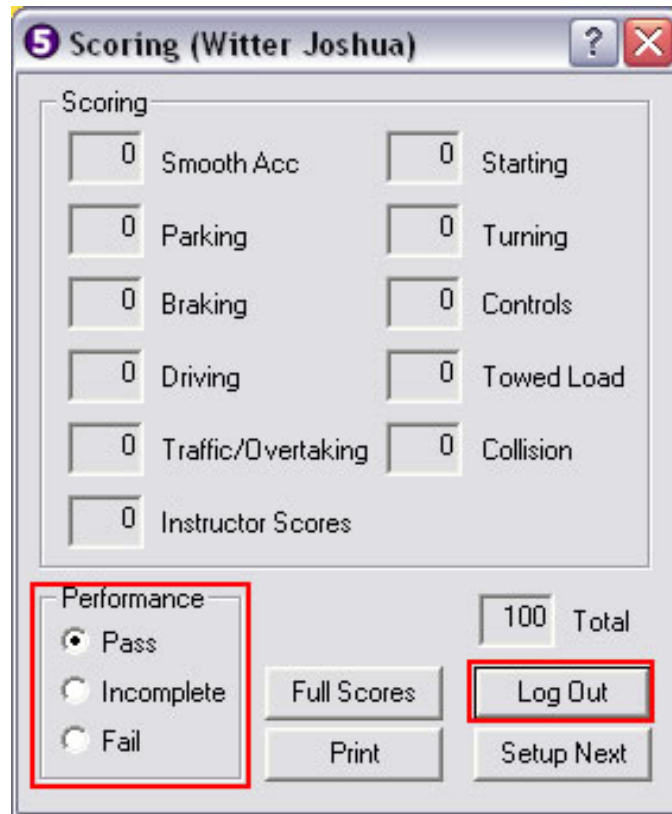

Figure 173. Scoring Window - Logout
2. Select the appropriate student performance (pass, incomplete, fail) on the Scoring window, and then click the [LOGOUT] button (Figure 173) to logout or the [SETUP NEXT] button to return to the POI/Scenario selection screen.